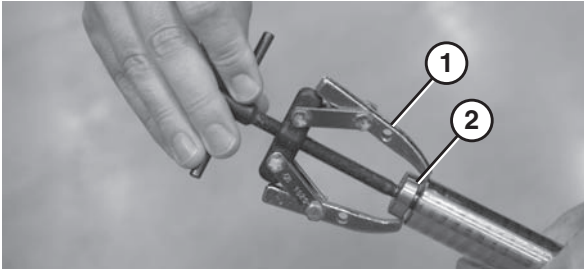

Figure 52
2. Using a bearing removal tool (Figure 52, item 1) remove the bearing (Figure 52, item 2).